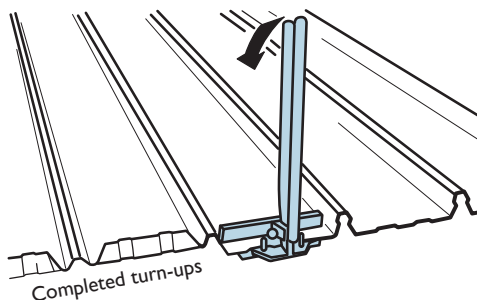

Figure 10.1.4
- Hold the handles together to clamp the tool onto the tray, and pull them to turn-up the tray 90° (Figure 10.1.4).